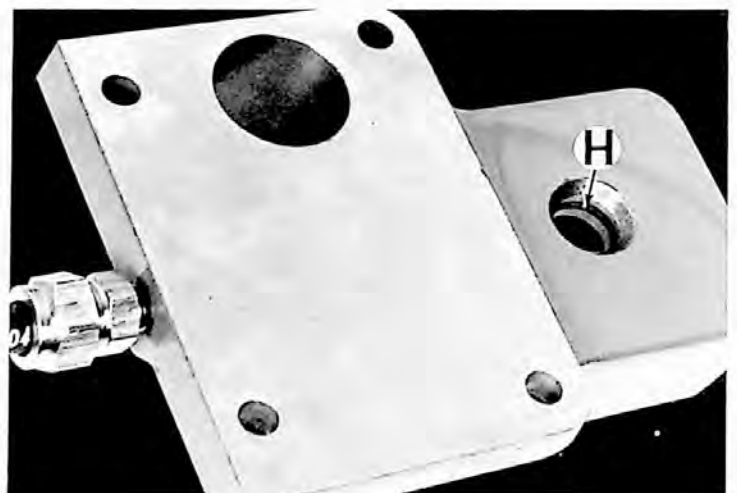

Figure 21 — Cylinder Housing
7. If necessary, remove O-ring "H", Figure 21.
1. Replace O-ring "H", Figure 21.